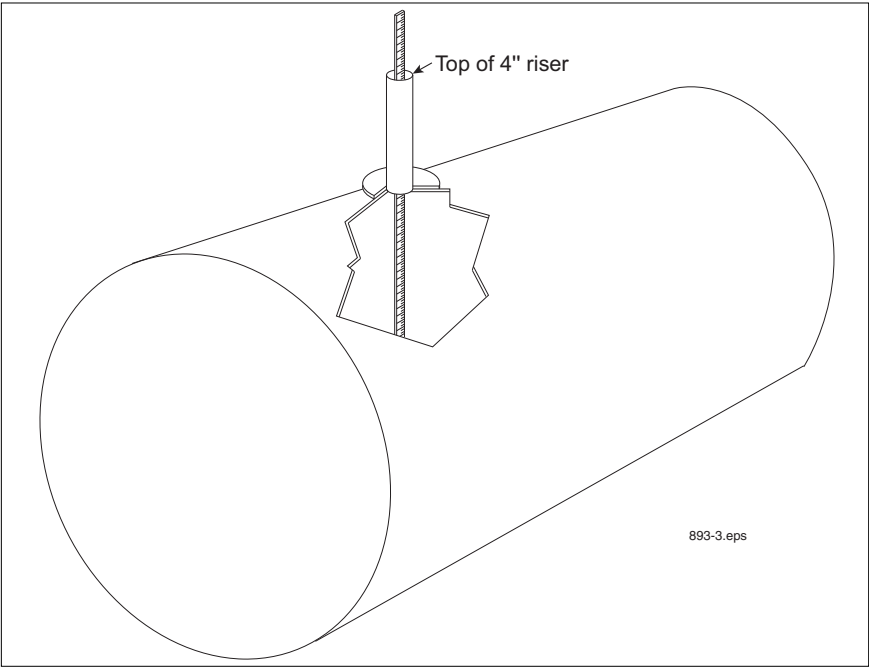

Figure 7. Measuring Tank
2. Measure the distance from the bottom of the tank to the top of the 4-inch riser pipe as shown in Figure 7.